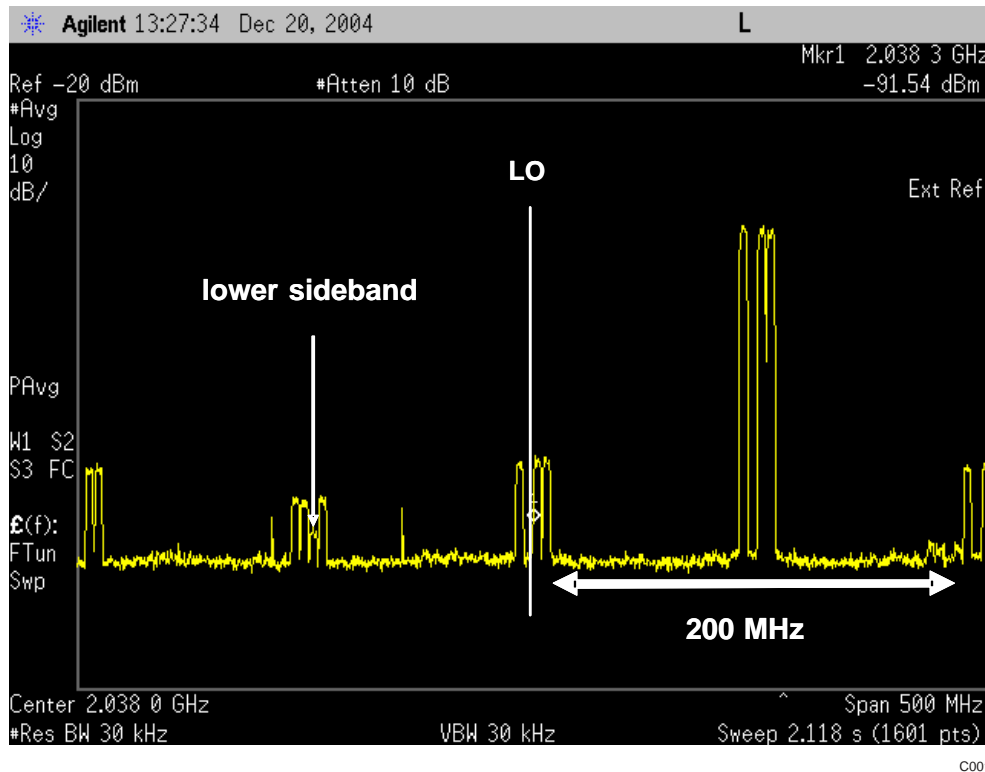

Figure 79. Analog Quadrature Modulator Output for a Complex IF System
This is shown in Figure 79, which is the RF analog quadrature modulator (AQM) output of an asymmetric three-carrier WCDMA signal with the properties in Table 18. The wanted signal is offset from the LO frequency by the DAC5687 complex IF, in this case 122.88 MHz. The nearest spurious signals are ~100 MHz away from the wanted signal (due to nonharmonic clock-related spurious signals generated by the  $f_{DAC}/4$  digital clock), providing 200 MHz of spurious-free bandwidth. The AQM phase and gain imbalance produce a lower-sideband product, which does not affect the quality of the wanted signal. Unlike the real IF architecture, the nonharmonic clock-related spurious signals generated by the  $f_{DAC}/2$  digital clock fall  $\pm 245.76$ -MHz offset from the wanted, rather than falling in-band.
**Table 18. Signal and System Properties for Complex IF System Example in Figure 79**